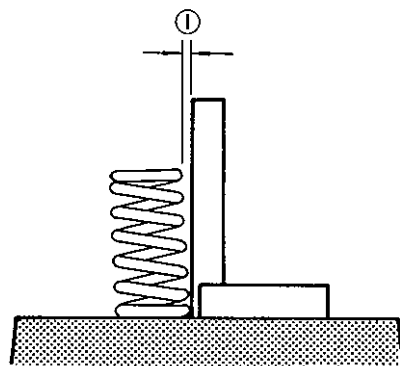

Fig. 3-73
Use a square and surface plate to check each spring for squareness in terms of the clearance ①, Fig. 3-73, between the end of valve spring and the square. Valve springs found to exhibit a larger clearance than the limit must be replaced.